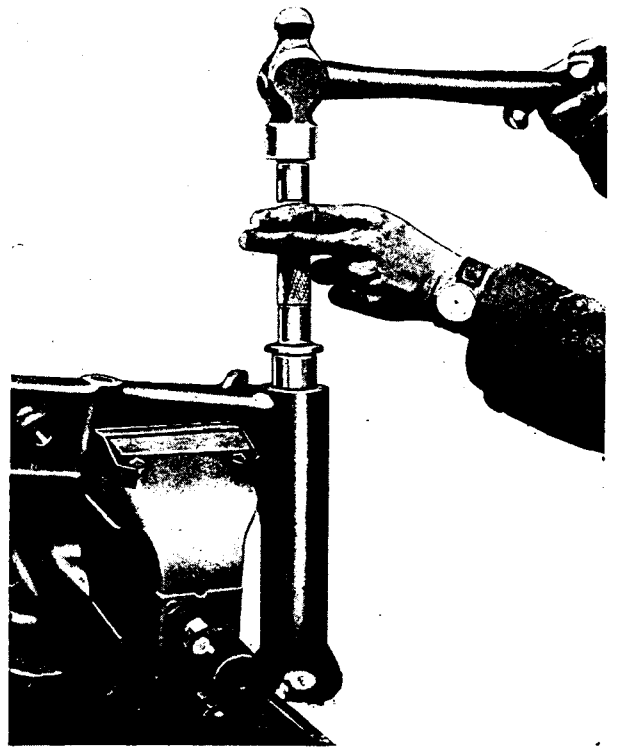

FIG. 5
2. Mount bush on boss of replacing tool FT.18 and tap in position as shown in Fig. 5.